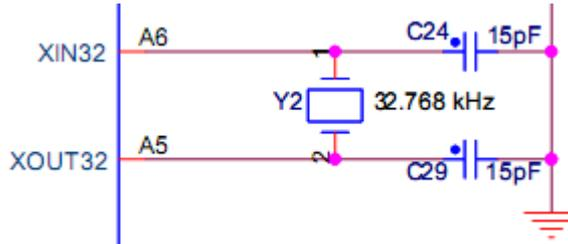

Figure 2-3
(2) RTC clock chooses 32.768 KHz crystals. Circuit is shown in figure 2-3: